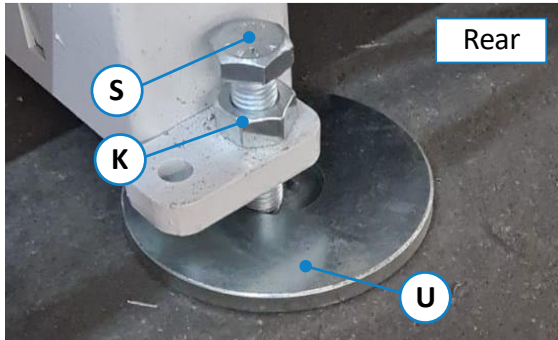
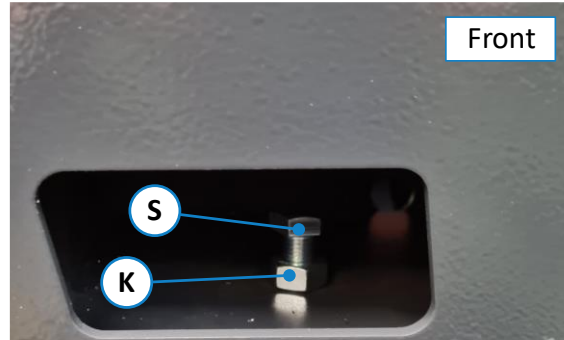

Figure 11: Levelling screws at the rear (normal case)
Figure 12: Front levelling screws (exceptional case)
When setting up the machine, it must be properly aligned with a machine spirit level (0.1 mm/ 1 m). For this purpose, the machine has two adjustable feet with corresponding set screws (S) on the rear side (⇒ Figure 11) and two round plates (U) as a base. In the **normal case**, the front of the machine stands flush on the two pedestals. Level here only in **exceptional cases** (very uneven floors).
1. Before setting the machine down, lower it only close enough to the ground so that the two plate feet (U) shown in ⇒ Figure 11 can be placed centred under the screws (S).
2. Now lower the machine completely until it is centred on the plate feet with both screws (S).
3. To align with the spirit level, it is usually sufficient to adjust only the rear screws (S).
4. An open-end spanner SW22 is required for adjustment. First loosen the lock nuts (K) and then adjust the height with the set screws (S) until the machine is evenly levelled.
2. Only in this exceptional case are the front adjusting screws (see ⇒ Figure 12) necessary for levelling. However, these are only accessible after the front cover plate is removed.
3. Before adjusting, raise the machine on the front side so far that the two round plates (U) can also be placed here centred under the adjusting screws (S).
4. Then loosen the four lock nuts (K) shown in ⇒ Figure 12 and ⇒ Figure 11 and adjust the height on all four screws (S) until the machine is evenly level.